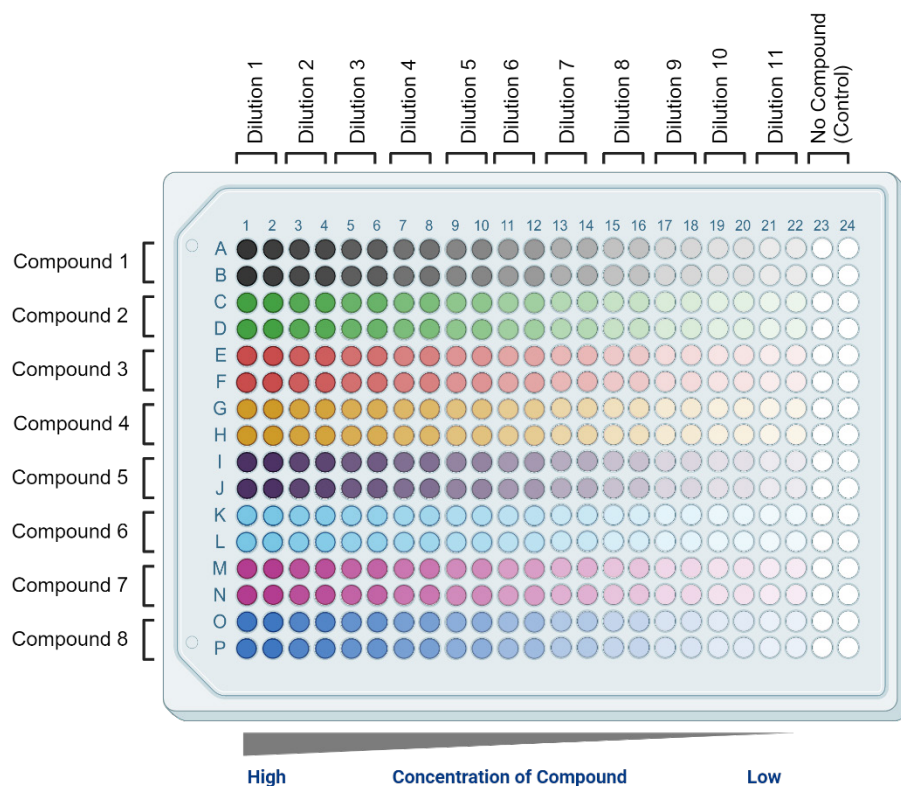

Figure 9. Compound Assay Plate Map – Antagonist
2. Using a 12-channel pipette, add 2.5 μ L of each 10X antagonist compound serial dilution in quadruplicate to the designated compound rows (e.g., Compound 1, with Dilution 1 in rows A and B, Columns 1 and 2; Compound 2, with Dilution 1 in rows C and D, Columns 1 and 2). Repeat for the remaining compounds as indicated in the Compound Assay Plate Map - Antagonist (Figure 9).